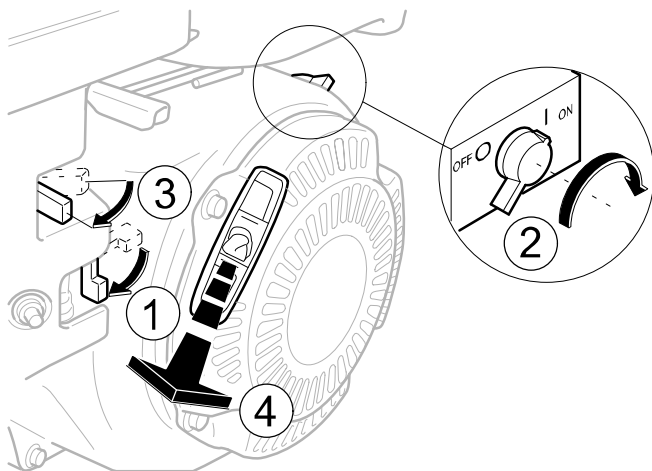

Fig. 10 Starting petrol units
- Open fuel shut-off valve (1, Fig. 10).
- Set ignition switch to I (2)
- Set choke to position START (3). Start engine with rope starter (4). As soon as motor runs smoothly return choke to normal operating position.